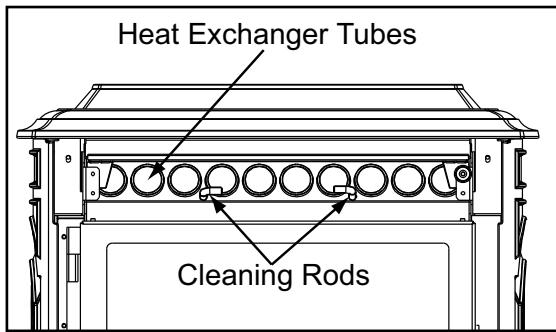

Figure 29.1
a. Allow the appliance to completely cool down before pulling the cleaning rods. Turn the thermostat on and then immediately off to start the exhaust blower on its cycle time. It will pull fly ash out the exhaust instead of into the room. Open the cast hinged face to access the 2 cleaning rods. **See Figure 29.1 on page 29.**